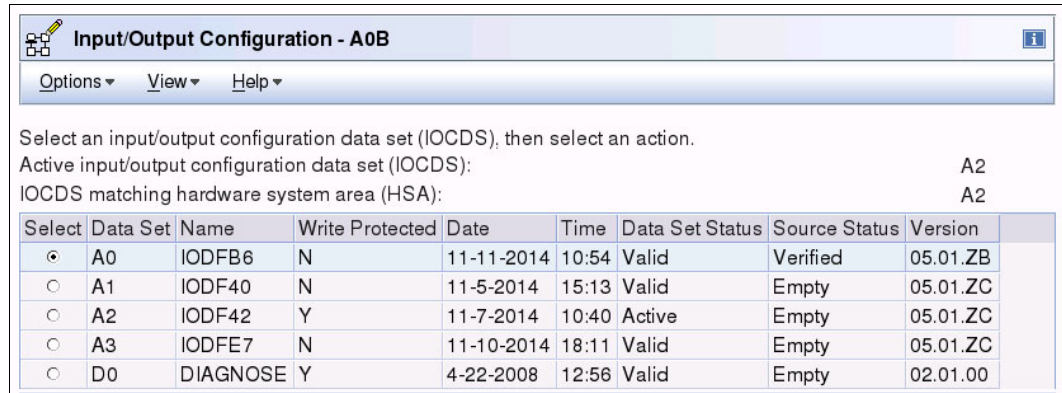

Figure 8-128 HMC - SAIOCP - IOCDs source status changed to verified
19. Observe that the Source Status now says **Verified** (Figure 8-128).